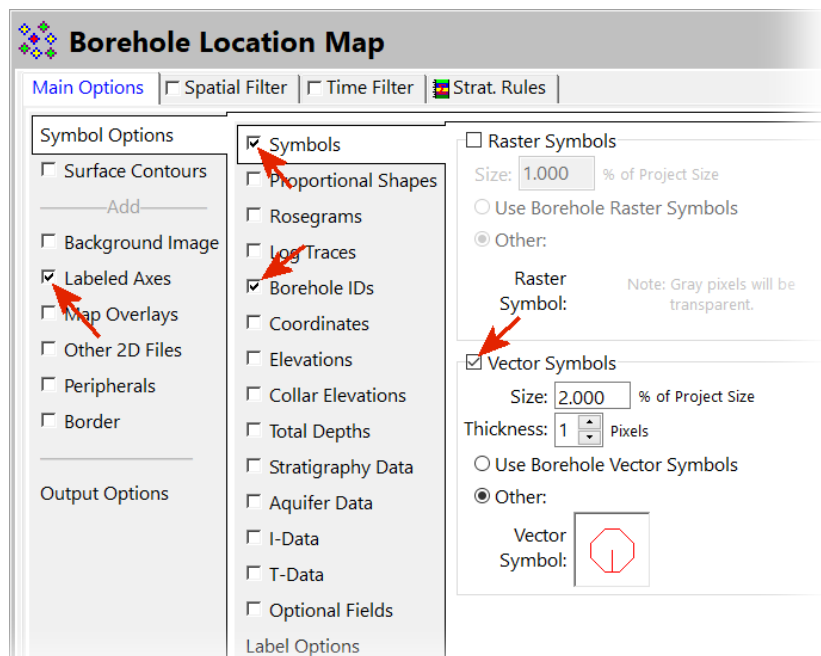

Figure 52
- We'll start by using the default values (Figure 52) and then make some changes to produce a better map.